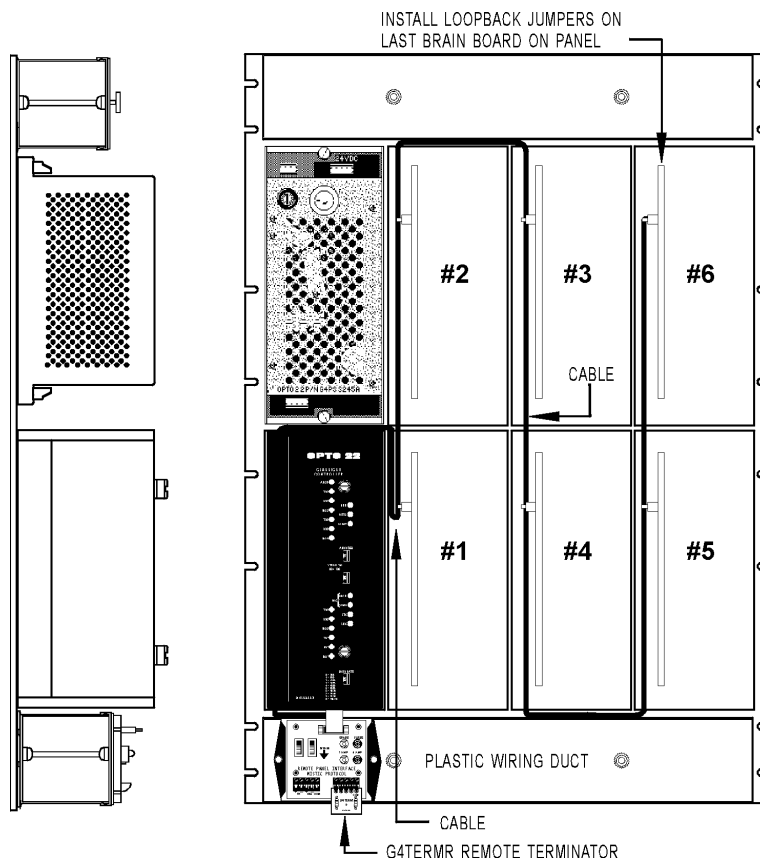

Figure 3-6: G4LC32SX Remote Bus Wiring - Single Panel
1. Attach connector #1 to the G4IOR board. Attach connector #3 to the first remote I/O brick. Attach the remaining connectors to their corresponding remote brick, then cut off all excess connectors. See Figure 3-6.
1. Attach connector #1 to the G4IOR board. Attach connector #3 to the first remote I/O brick. Attach the remaining connectors to their corresponding remote brick. See Figure 3-6.
2. Attach connector #1 to the G4IOR board. Attach connector #3 to the first remote I/O brick. Attach the remaining connectors to their corresponding remote brick, then cut off all excess connectors. See Figure 3-6.